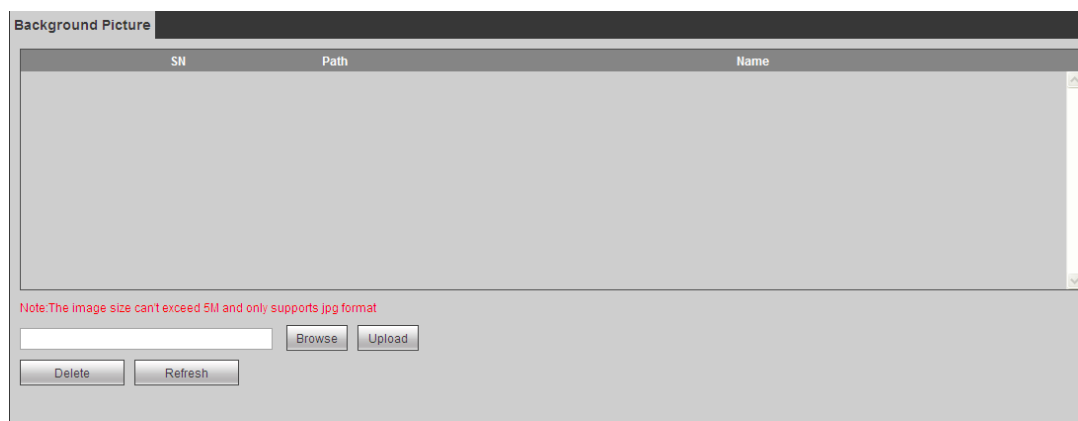

Figure 3- 35
Step 1. Select Settings>System>Background Picture. See Figure 3- 35.